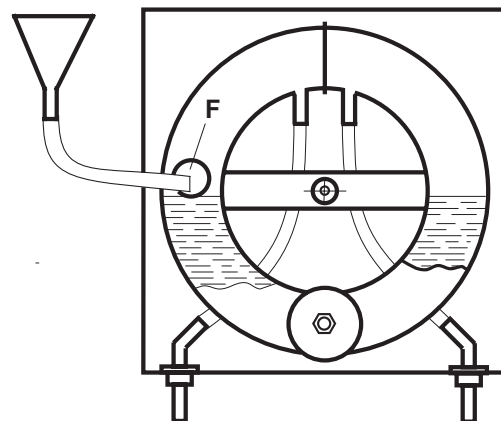

Figure 4:
**Maximum Quantity:** the ringbody should be filled up to the filling opening (see fig.4).
### Refilling (figure 4)